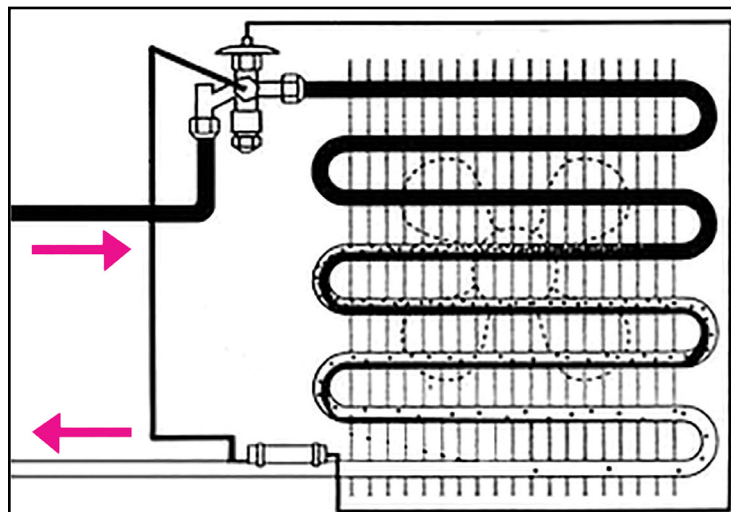

Figure 13: TXV Sensing Bulb Location
1. Install the TXV bulb on the suction line just outside the air handler cabinet (See Figure 13) using the two bulb clamps furnished with kit.